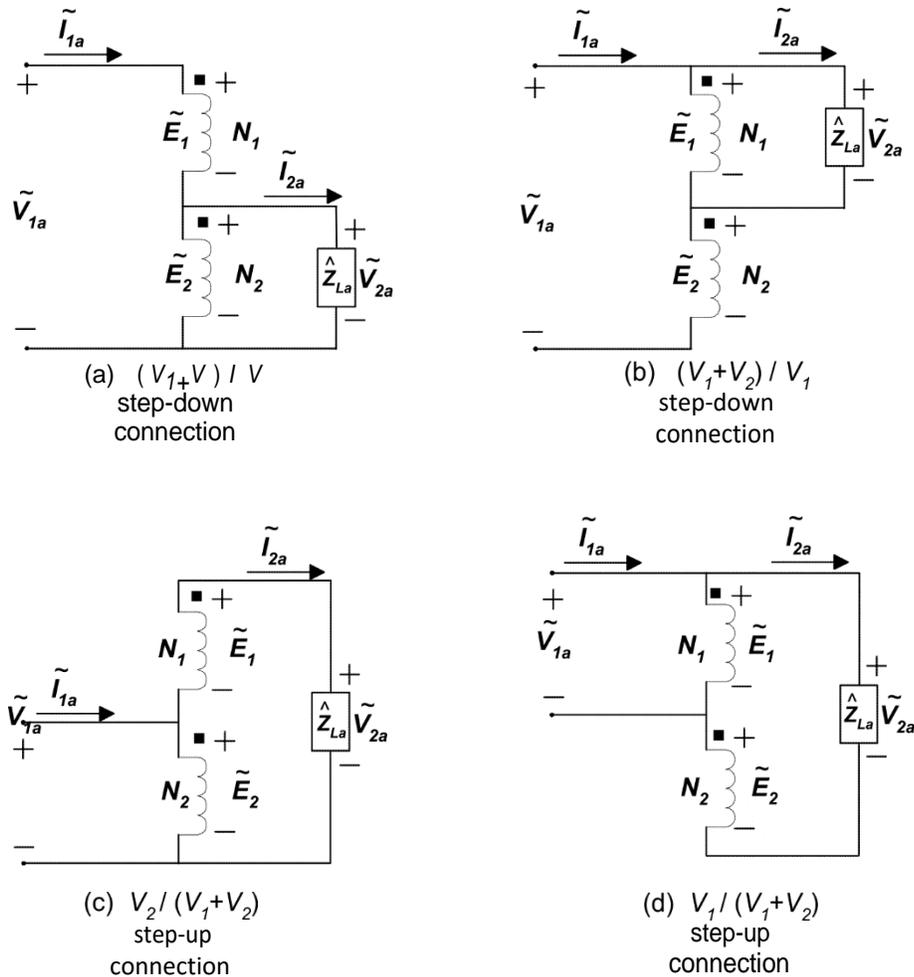
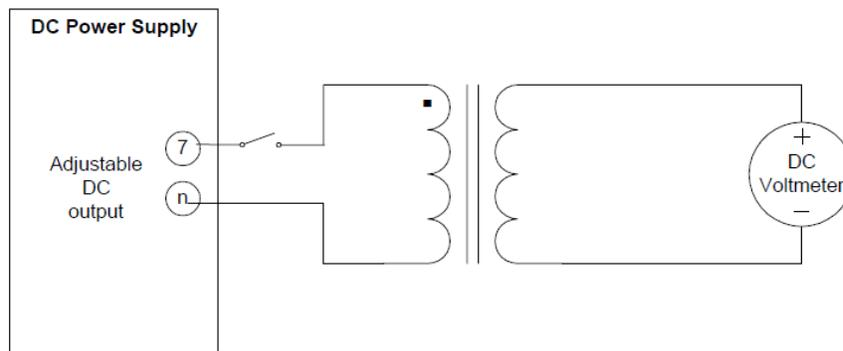

FIGURE 4.9
FIGURE 4.10
Single-phase transformers can be rearranged to form an autotransformer as shown in Figure 4.9. This is a special connection of the transformer that raises the VA rating from that of the two-winding configuration. The current remains the same in both arrangements (normal and autotransformer) and therefore, the losses also remain the same. The principle of operation of the autotransformer is the same as that of the two-winding transformer. Autotransformers are generally used when ratio is 3:1 or less. Two disadvantages are the lack of electrical isolation between primary and secondary and the increased short-circuit current over that of the two winding transformer equivalent connection.
This test is a DC test in which a small DC voltage impulse is applied to the primary voltage winding (see Figure 4.9) while we observe if the secondary winding voltage kick is positive or negative. By kick we mean the effect of applying a DC voltage to the primary winding of a transformer will only be seen during the transient period that takes the voltage to go from zero to applied voltage. If the kick is positive, the secondary winding terminal connected to the positive jack of the DC voltmeter has the same polarity of the primary winding terminal connected to the positive output of the power supply, as shown in Figure 4.10. If not positive, these two winding terminals have different polarity.
- 6) If that transformer is now connected as an autotransformer (Figure 4.9), determine for every case:
- Step 3: Connect the circuit shown in Figure 4.10. Use the adjustable DC output of the power supply as your power source and realize that the instrumentation is also DC (DO NOT TURN ON THE POWER SUPPLY YET). Connect the DC power supply to terminals 1 and 2 and the meter across terminals 3 and 4.